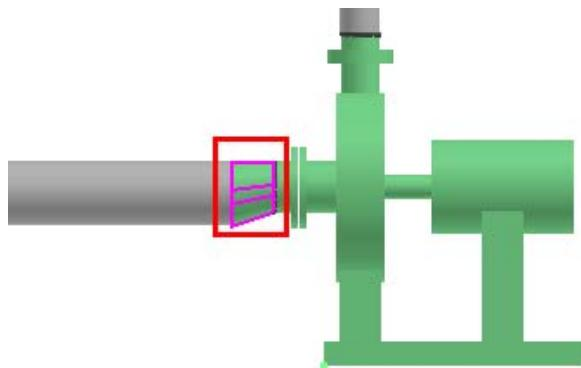

Figure 18: Selected Eccentric Reducer
4. Select the eccentric reducer **Eccentric Size Change**, as shown in Figure 18.